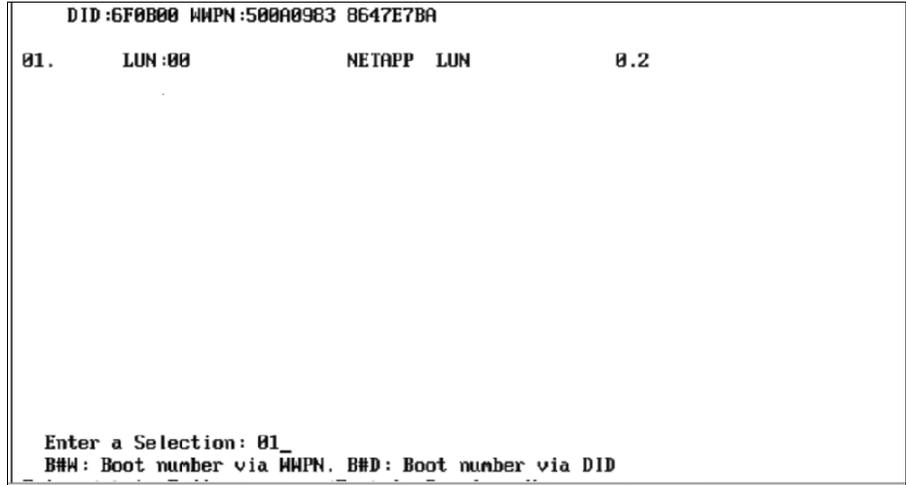

Figure 10-18 Bootable devices menu
11. BootBIOS displays a menu of bootable devices. The devices are listed in boot order. The primary boot device is the first device listed. If the primary boot device is unavailable, the host boots from the next available device in the list. In our example, as shown in Figure 10-18, only one LUN is available because we configured SAN zoning to one path only, as recommended in 10.2.1, “Configuration limits and recommendations” on page 253. Type 01 to select the primary boot entry, and press Enter.